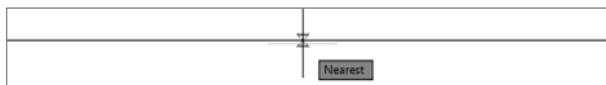

**FIGURE 7.24** Making a zoom window
3. Using a zoom window, zoom into a horizontal section of wall where there are no jamb lines or intersections with other walls (see Figure 7.24).